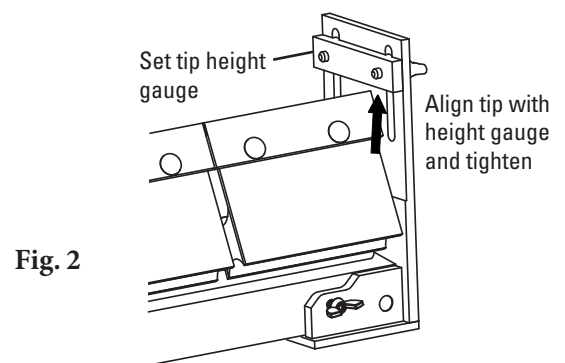

Fig. 2
2. **Select Set™ Tensioner Kit:** Tensioner kits are shipped in the push-up tensioning position. (Fig. 2).
4. Set the tip height gauge on the Cartridge Tip Alignment Tool so that the loosely installed tip can push up into the corner of the tool (Fig. 2).
5. Tighten the first tip while holding it tight to the Cartridge Tip Alignment Tool (Fig. 2).